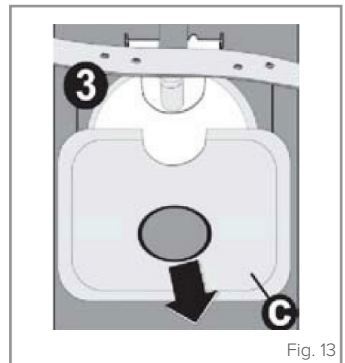

Fig. 13
4. Remove the base filter from the dishwasher compartment (Fig. 13).